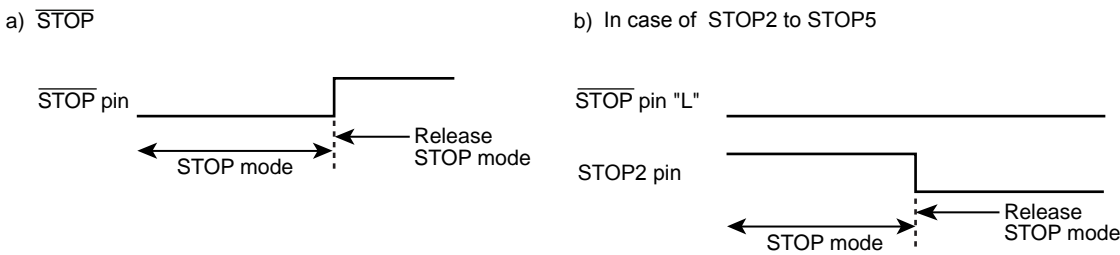

Figure 13-3 Priority of STOP pin and STOP2 to STOP5 pins
- Note 6: When the STOP mode is released by STOP2 to STOP5 pins, the level of $\overline{\text{STOP}}$ pin should hold "L" level (Figure 13-3).